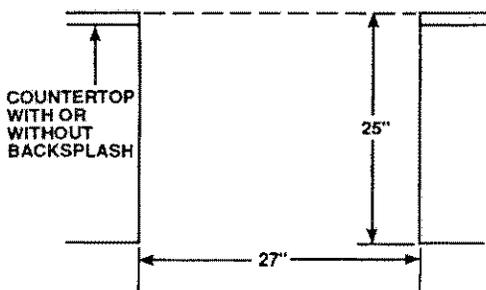

Fig. 3
**NOTE: If the distance from the back wall to the front of the counter backsplash (Dimension A in Fig. 4) is greater than 1 1/8", there will be a small gap between the wall and the edge of the backguard. This is normal and should not be visually objectionable (See Figs. 3 & 4).**